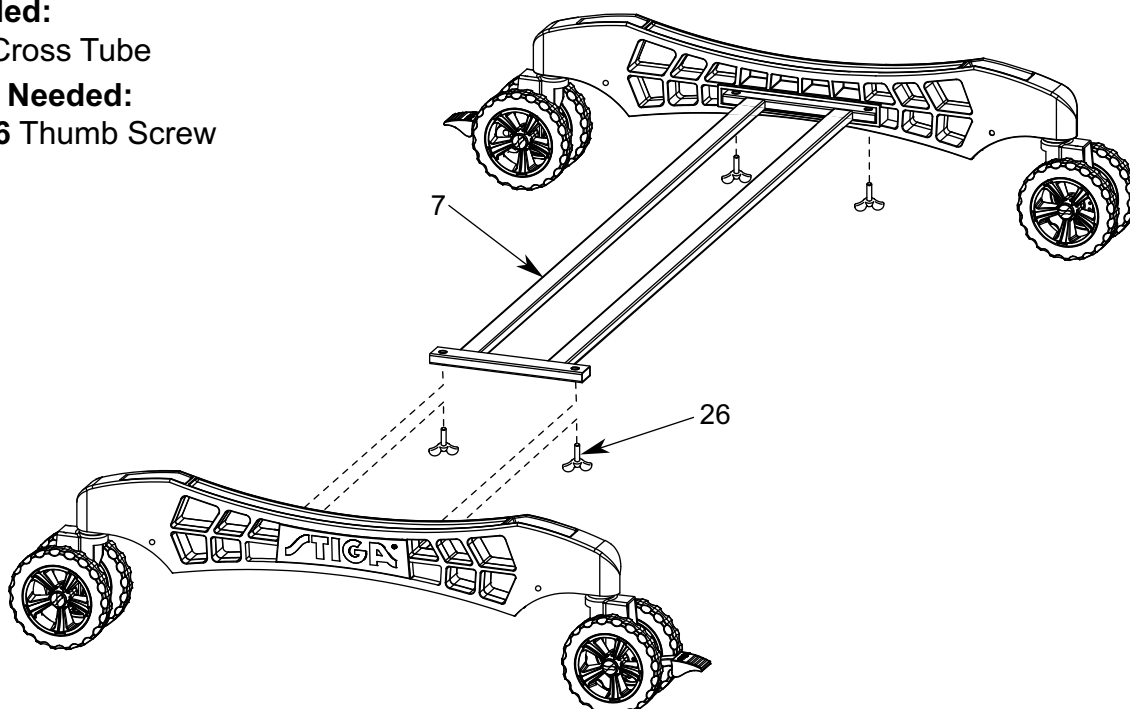

Figure 2
2. Attach Cross Tube (#7) to Caster Beam Assemblies using four Thumb Screws (#26) as shown in **FIGURE 2**.